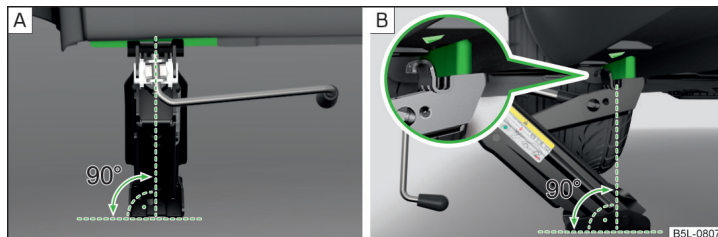

Fig. 176 Attach lifting jack
- ▶ Position the base plate of the jack with its full area resting on level ground and ensure that the jack will fit in the jacking point when raised » Fig. 176 - A.
- ▶ Use the crank to raise the jack until its pawl covers the jacking point » Fig. 176 - B.